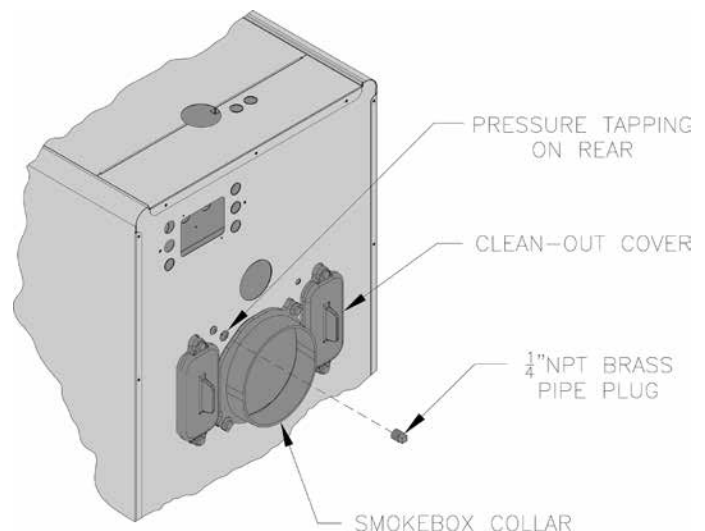

Figure 15: Smokebox Pressure Tapping for Checking Draft at Breech
NOTE: Secure chimney connector to cast iron smokebox collar with three (3) #10 x 1/2" self drilling hex head TEK screws provided in miscellaneous parts carton. Locate screws around perimeter of connector as shown in Figure 15 and approximately 1/2" in from edge. Use drill with 5/16" hex bit to drive screws through connector and smokebox collar.
rear of boiler (see Figure 15). The pressure at the canopy cannot be positive since this could create a condition that allows flue gas by-products to escape from the draft regulator. A negative pressure reading up to -.03 inches water column is acceptable for proper operation. (See Tables 15A thru 15C and 16) Burner Specifications at the rear of this manual for more details)